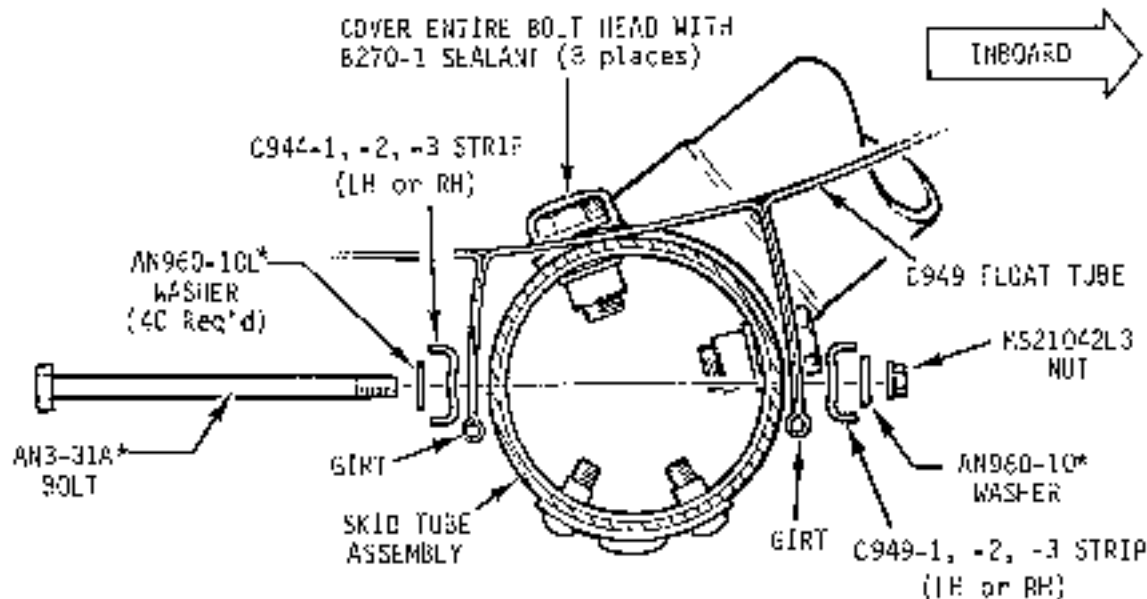

FIGURE 5-3 UTILITY FLOAT ATTACHMENT
1. See Figure 5-3. Ensure bolt heads directly beneath float are covered with a protective layer of B270-1 sealant (see Section 1.480). Apply additional sealant as required.
2. See Figure 5-3. Position uninflated float tube over landing gear skid tube and extension. Align holes in C914 retainer strips, float tube girts, and skid tube.
3. Install AN3 attach bolts per Figure 5-3. Seat under bolt head and nut with B270-1 sealant (ref Section 1.480). Torque bolts per Section 1.320.